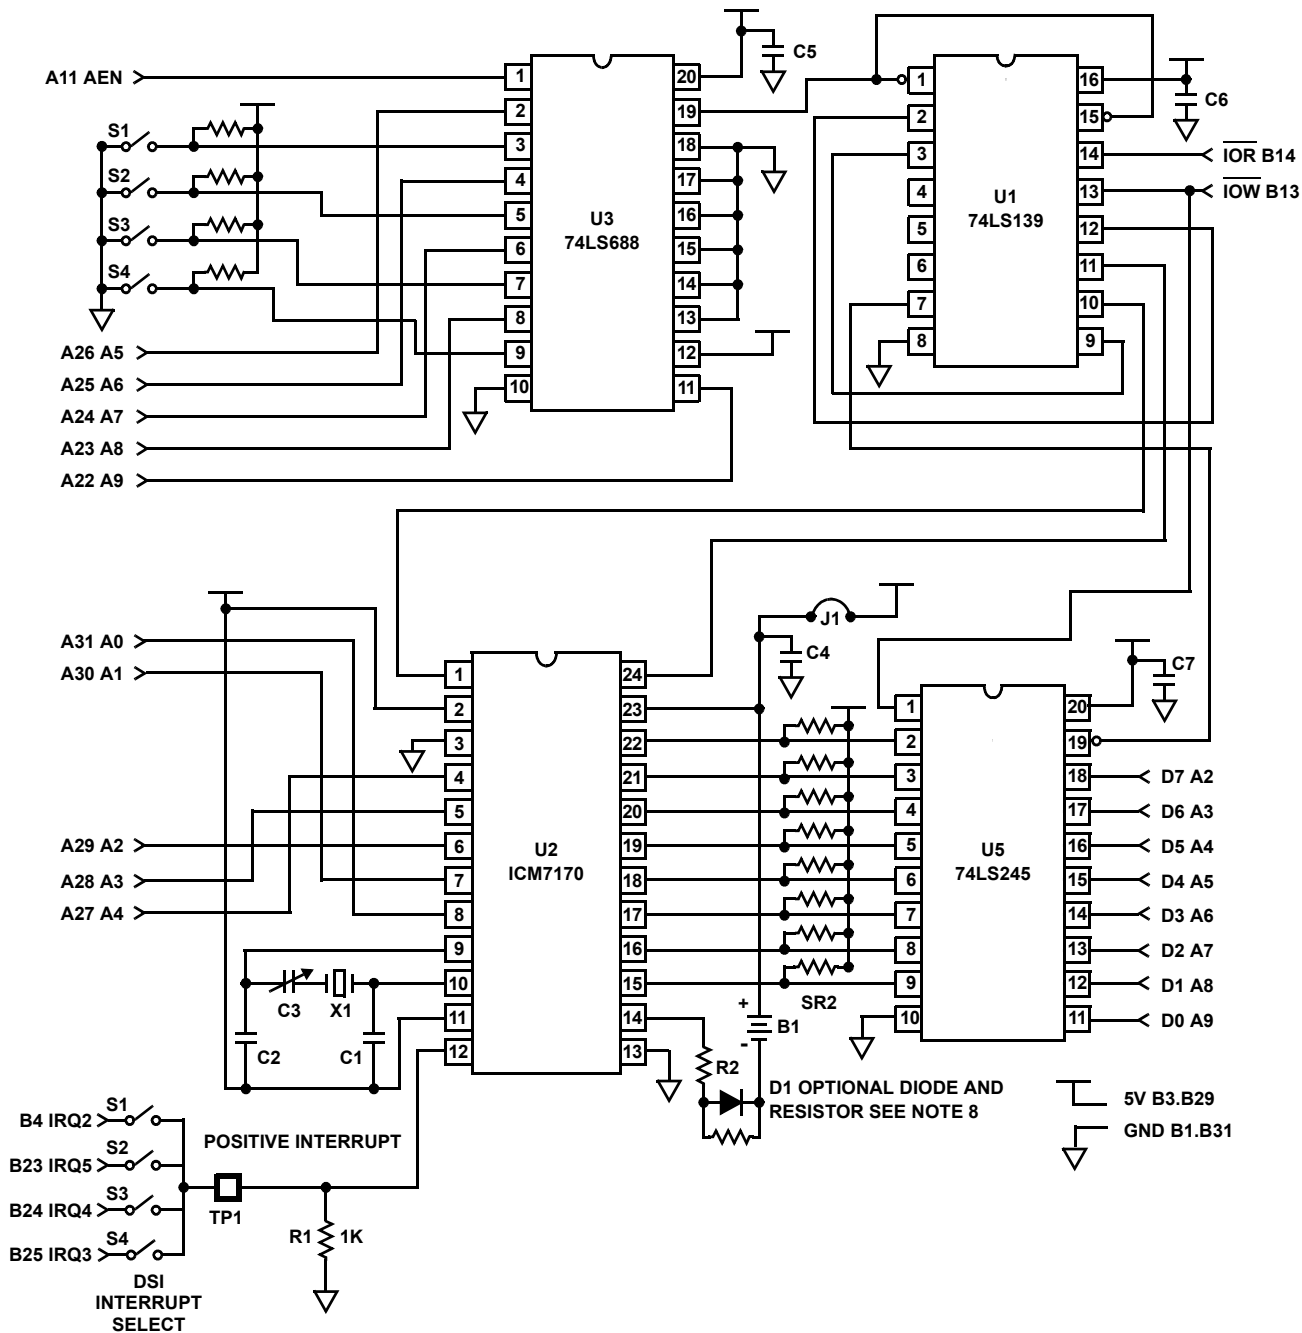

FIGURE 9. IBM PC INTERFACE FOR ICM7170Y
Figure 9 shows the schematic of a board that has been designed to plug into an IBM PC/XT (Note 1) or compatible computer. In this example $\overline{CS}$ is permanently tied low and access to the chip is controlled by the $\overline{RD}$ and $\overline{WR}$ pins. These signals are generated by U1, which gates the IBM's $\overline{IOR}$ and $\overline{IOW}$ with a device select signal from U3, which is functioning as an I/O block address decoder. DS1 selects the interrupt priority.
8. **V_{BACKUP} DIODE** - Lithium batteries may explode if charged or if discharged at too high a rate. These conditions could occur if the battery was installed backwards or in the case of a gross component failure. A 1N914-type diode placed in series with the battery as shown in Figure 9 will prevent this from occurring. A resistor of 2M Ω or so should parallel the diode to keep the V_{BACKUP} terminal from drifting toward the V_{SS} terminal and shutting off ICM7170 I/O during normal operation.